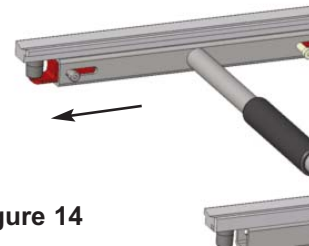
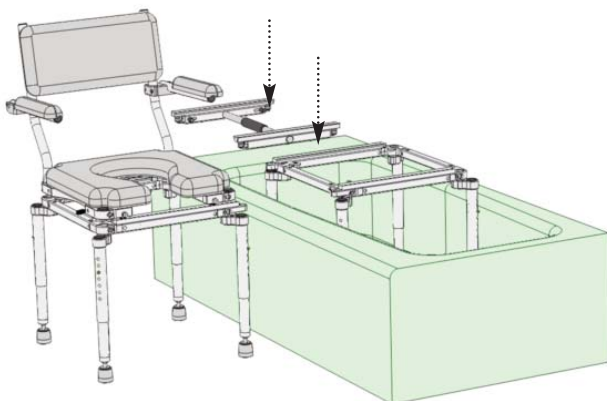

Figure 14
Figure 13
**E** Insert the connector bridge into the four eyelet holes (Two located on the commode section and two located on the tub section) - Refer to Figure 13. Switch the four shoulder screws to the lock position on the connector bridge (Refer to Figure 14).